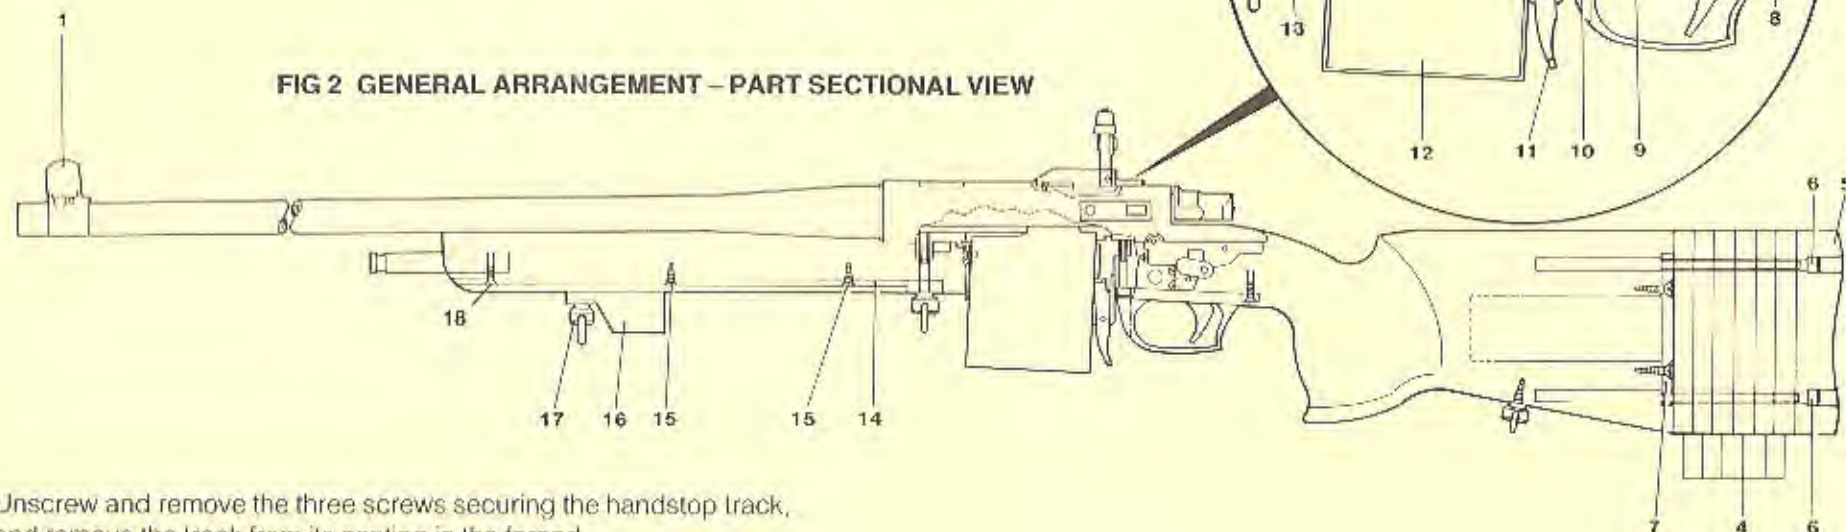

FIG 2 GENERAL ARRANGEMENT - PART SECTIONAL VIEW
4. REMOVING THE STOCK FROM THE BODY/BARREL ASSEMBLY (Fig 2)
7. STRIPPING THE STOCK (Fig 2)
8. STRIPPING THE BODY/BARREL ASSEMBLY (Fig 2 and 3)